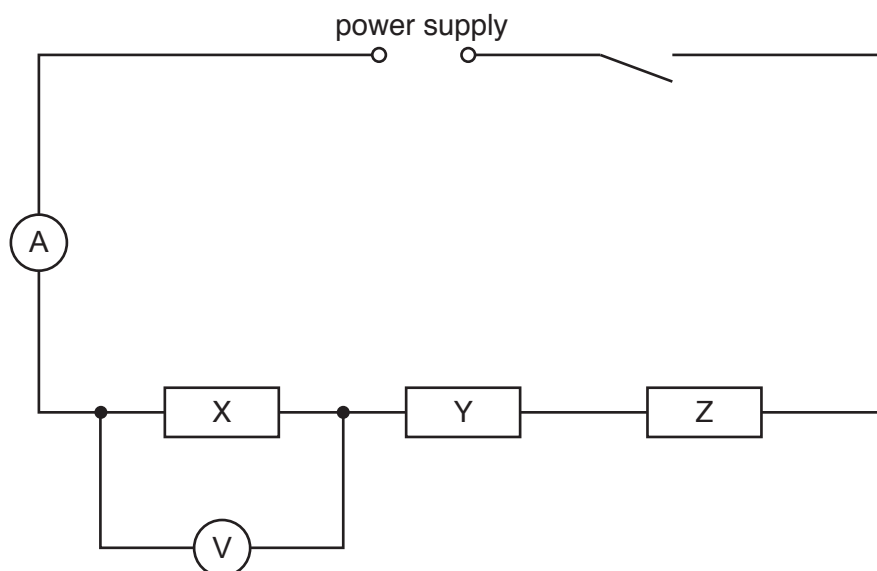

Fig. 3.1
- (iv) Sufficient connecting leads to set up the circuit shown in Fig. 3.1, with 4 spare leads.
1. The circuit is to be set up for candidates as shown in Fig. 3.1. The voltmeter must have leads and terminals that enable it to be connected to different parts of the circuit.
Connect the circuit as shown in Fig. 3.1 and check that the circuit is working.